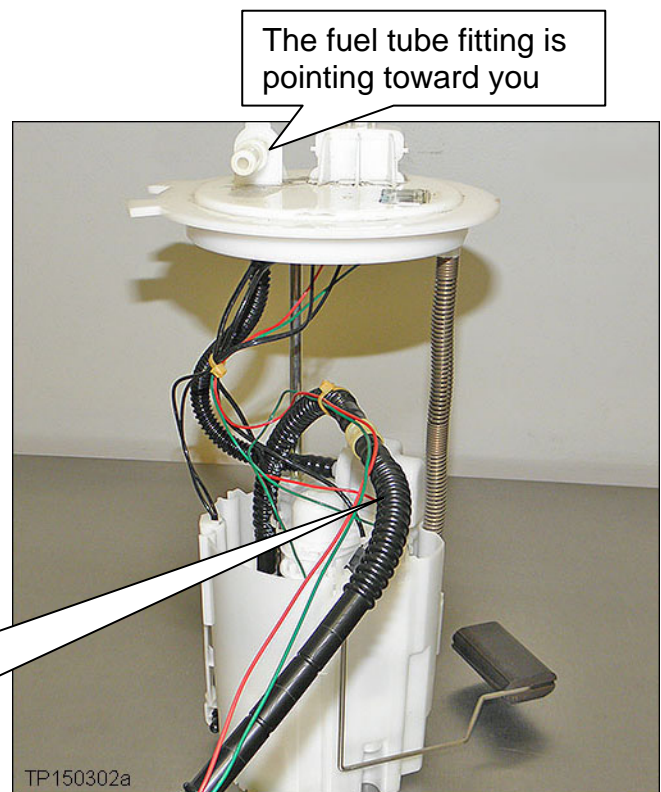

Figure 12a
- Make sure the fuel tube is routed as shown in Figure 12a before installation.
22. Install the fuel pump assembly half way into the passenger side fuel tank opening with the fuel tube positioned as shown in Figure 12a on the previous page.